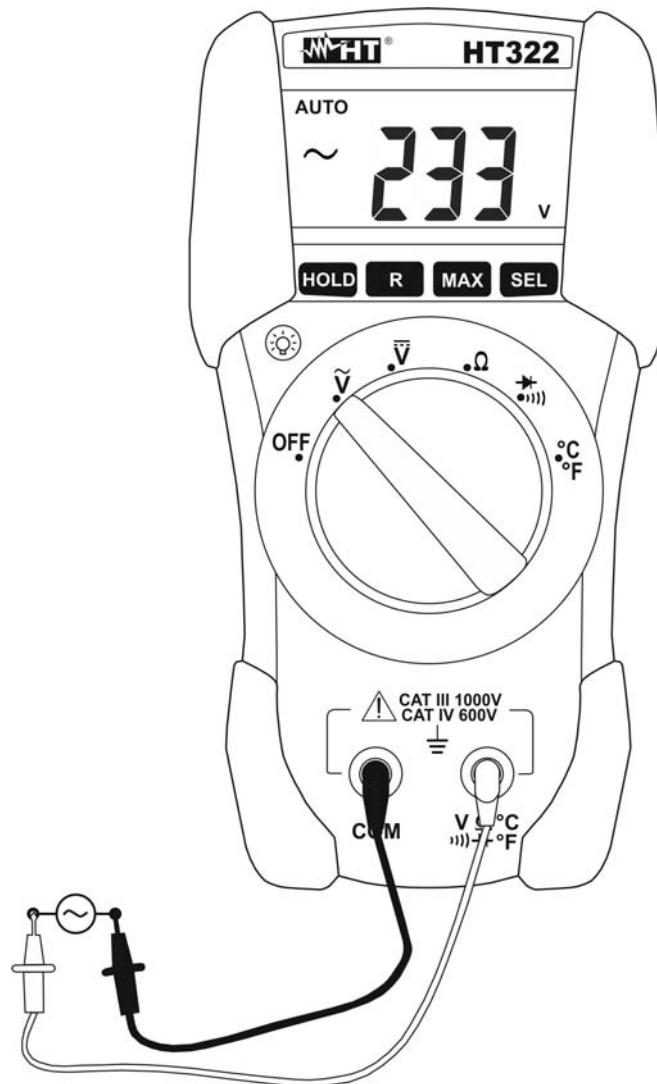

Fig. 3: Using the instrument for AC Voltage measurement
4. Connect the test leads to the circuit under test (see Fig. 3). The voltage value is displayed